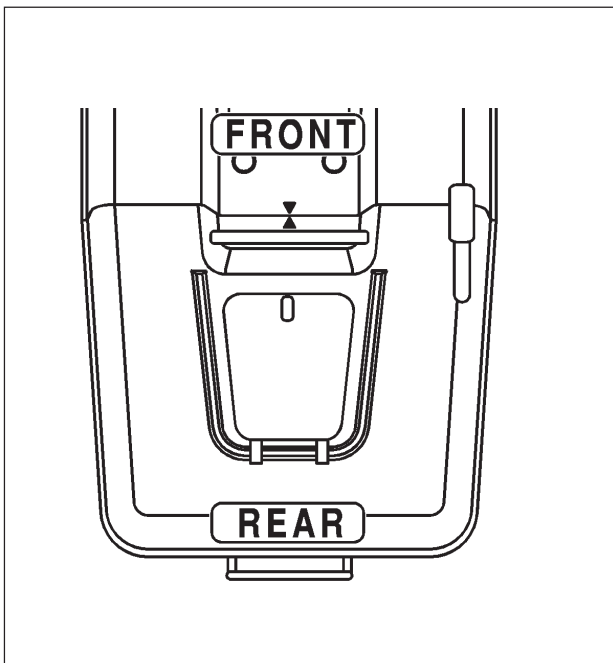

Fig. 7
3. When the grass collector is properly positioned, place the decal with the triangle symbol directly opposite to the symbol on the rear of the tractor. This will assist alignment in the future (Fig. 7).